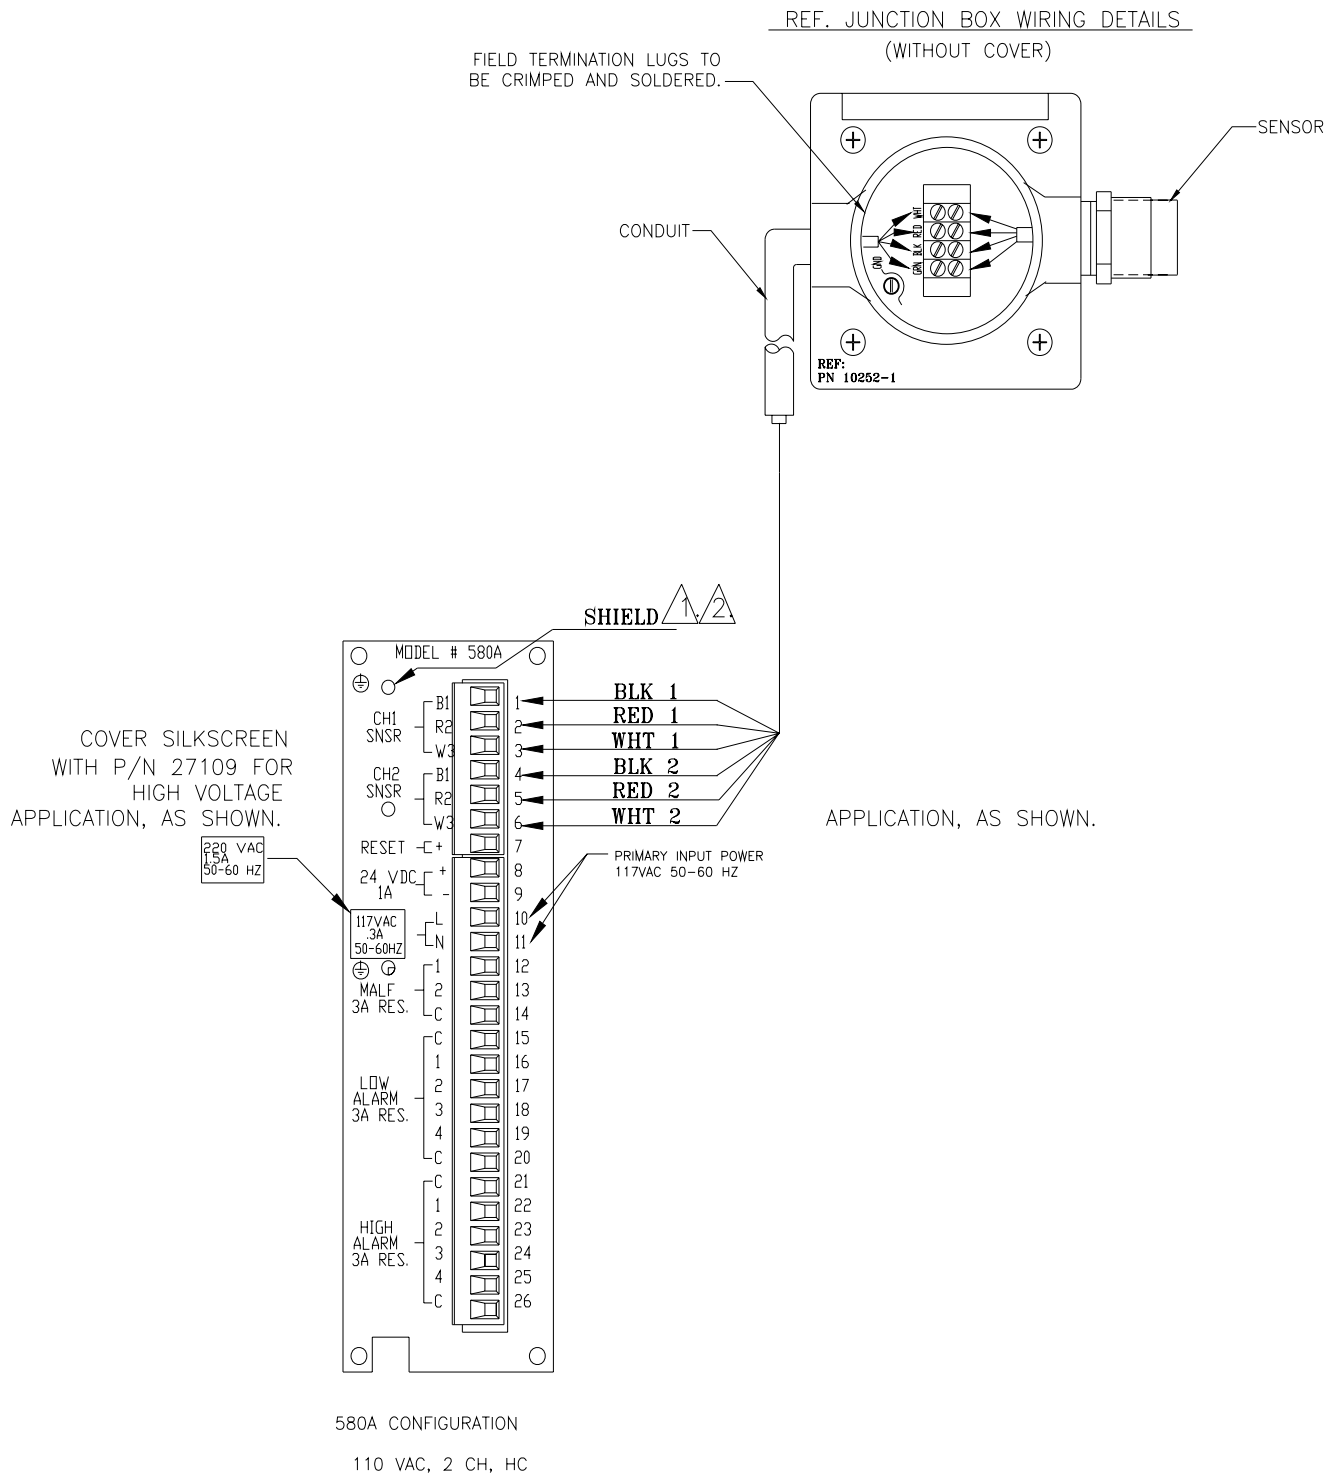

Figure 3: Rear Terminal Connections (REF: 20659)
1. Remove the P/N 10252-1 housing lid to reveal the terminal strip. The sensor is connected in the housing according to the color designations (Figure 3). The green position is not used.